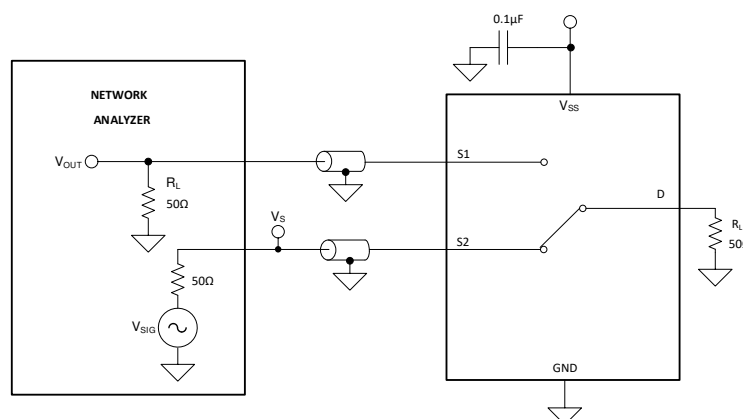

Figure 7-10. Crosstalk Measurement Setup
Crosstalk is defined as the ratio of the signal at the drain pin (D) of a different channel, when a signal is applied at the source pin (Sx) of an on-channel. Figure 7-10 shows the setup used to measure, and the equation used to calculate crosstalk.